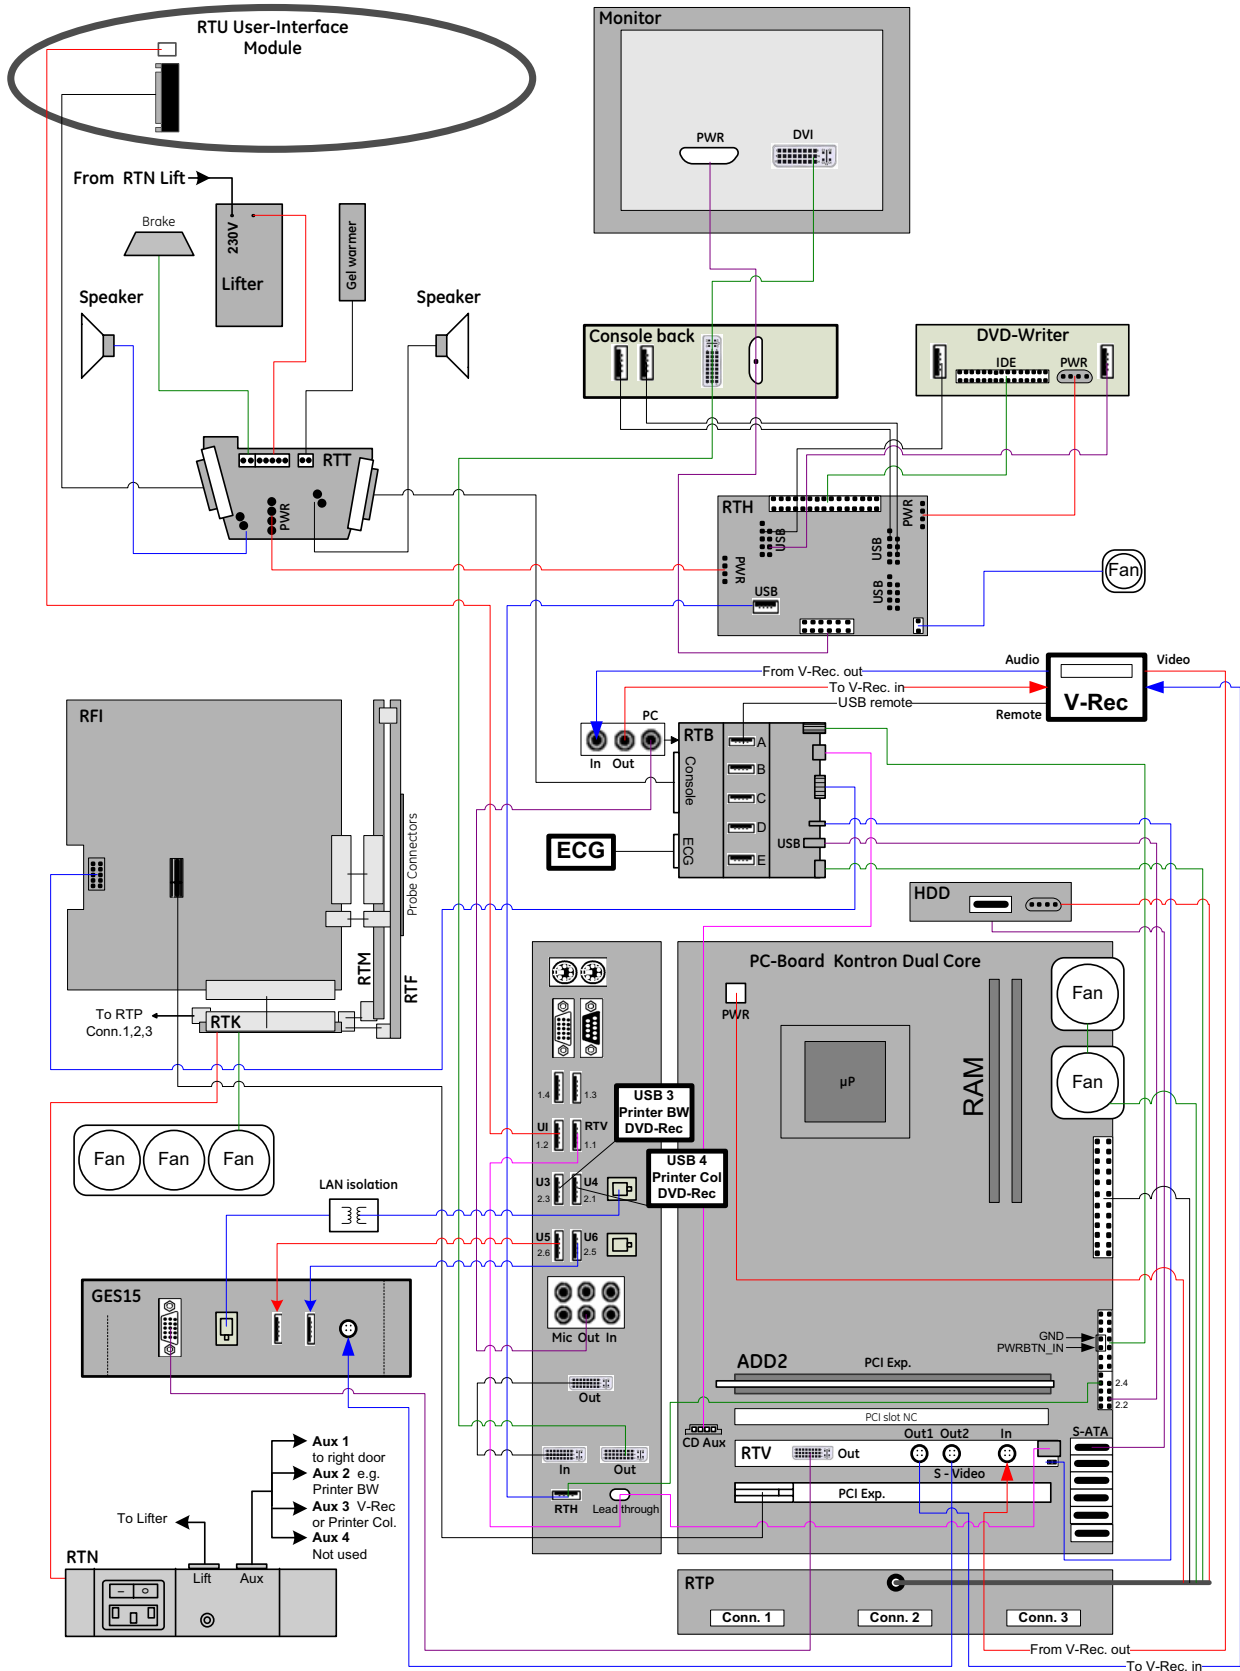

Figure 5-16 Voluson E6 (BT10): Internal I/O - KONTRON Dual-core PC-Motherboard
- “Kontron Dual-core” PC Motherboard is installed, see: Figure 5-16 on page 5-40.